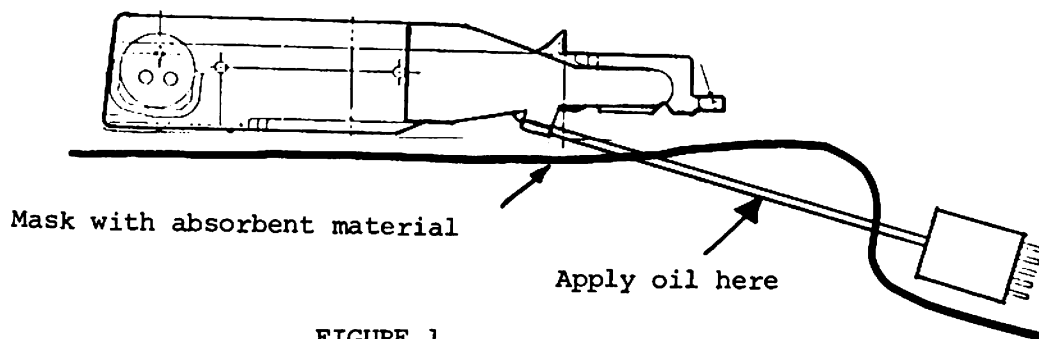

FIGURE 1
3. Stretch cable slightly and daub or lightly spray the head cable spring (approximately in the center of cable span) with the recommended oil. See Figure 1.